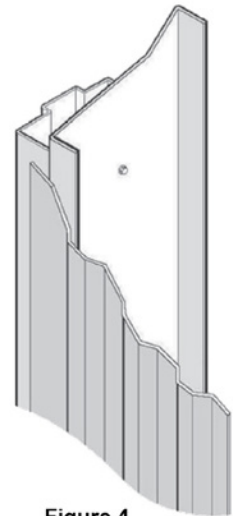

Figure 4
8. Complete wall panel installation. Attach drip cap at the header and J-Trim on the jambs. Cut and place wall panel so edge overlaps the frame/subframe connection and dies inside the J-Trim. (Figure 4) Caulk around door.
8. Complete wall panel installation. Attach drip cap at the header. Insert raw edge of sheeting into offset condition between the jamb return and the C-Channel at the top and both sides of door. (Figure 4) Caulk around door.
9. Complete wall panel installation. Attach drip cap at the header and J-Trim on the jambs. Cut and place wall panel so edge overlaps the frame/subframe connection and dies inside the J-Trim. (Figure 4) Caulk around door.